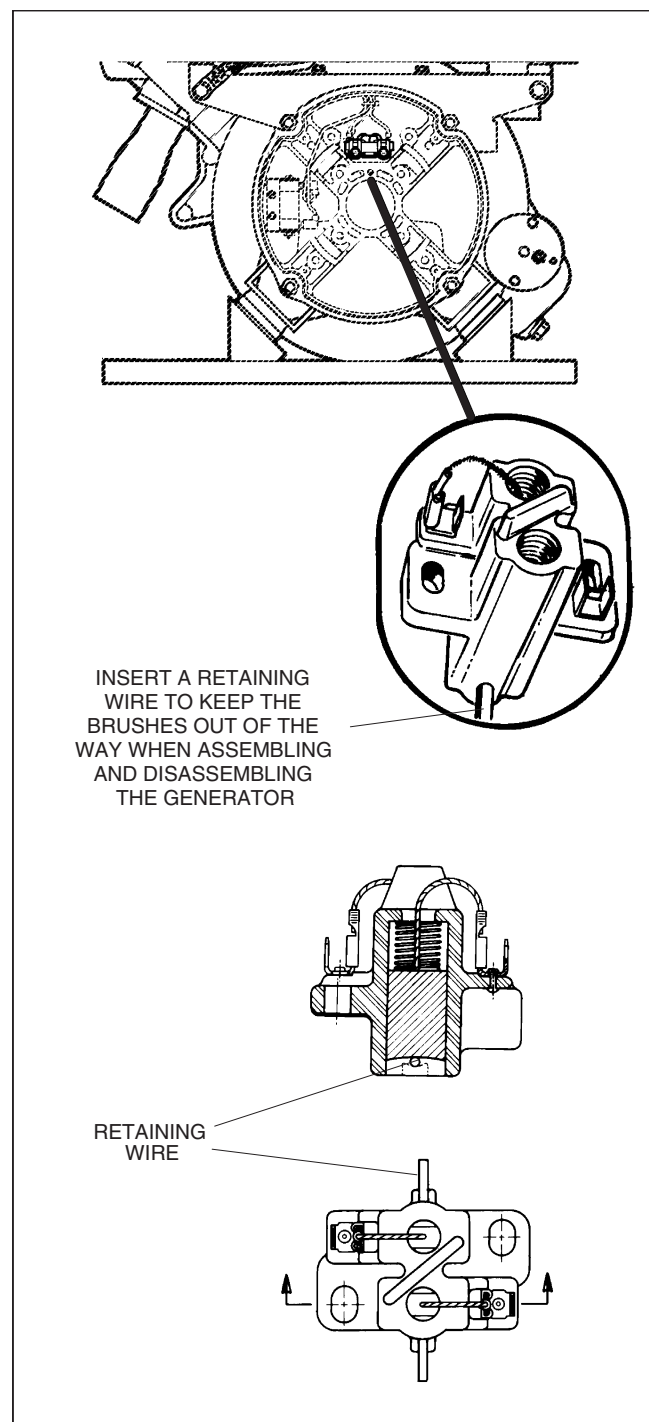

FIGURE 7-5 BRUSH BLOCK ASSEMBLY
- B. Insert a stiff wire through the small hole in the end of the stator housing and into the brush block, to hold the brushes up and out of the way (Figure 7-5). To do this, first pull both brush pigtails to lift the brushes off the slip rings.